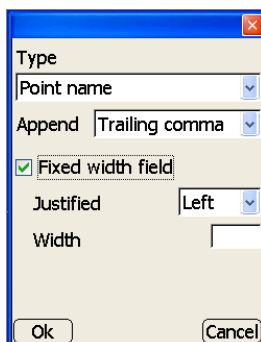

Figure 3-94. Enter Line Item Information
- **Add** – on the *Line items* tab, press **Add** to add a line item and its respective information, then press **Ok** to save (Figure 3-94 on page 3-63). Repeat this process for each line item.
- Edit – on the *Line items* tab, press **Edit** to edit the selected line item. See the “Add” bullet on page 3-62 and Figure 3-94 above for details on editing the line item.